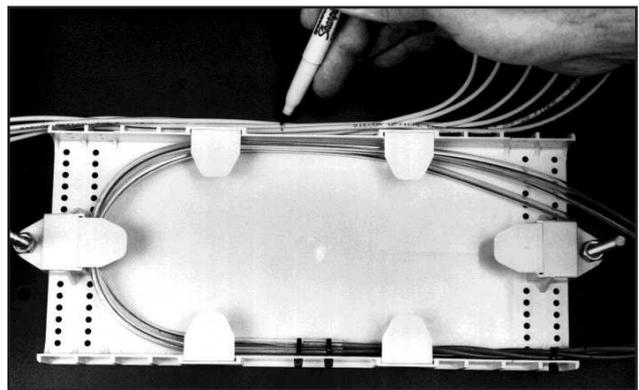

FIGURE 6 - MARK PIGTAILS
7.05 Mark the jacket of each of the pigtails at a point 50mm beyond the bending radius as shown in Figure 6.